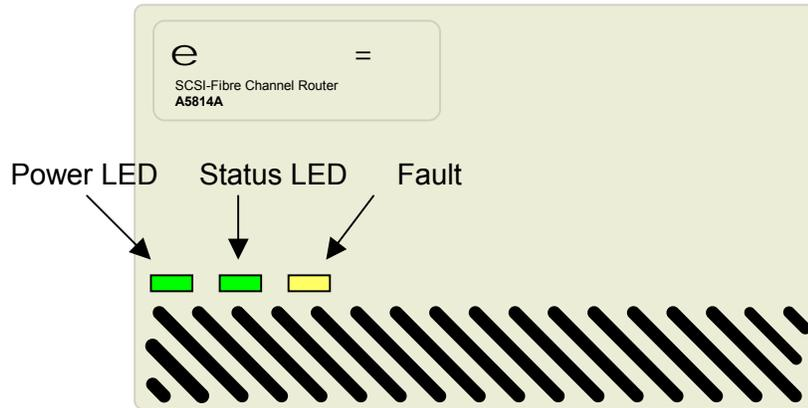
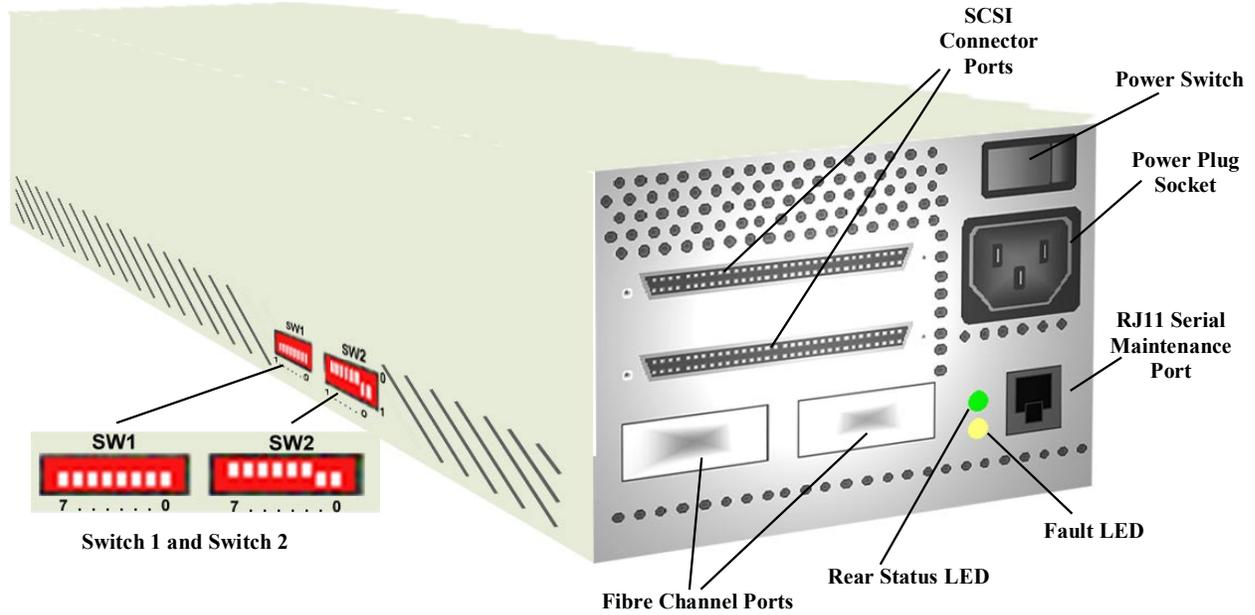

Figure 2-3. LED Location for Front Panel
Figure 2-4. Rear of SCSI-FC Router
4. When the Fault LED (yellow) is solid on and the Status LED (green) is blinking, it indicates that the Node Mapping Table has been cleared. (To locate the front and rear Fault LEDs, see Figure 2-3 and Figure 2-4, respectively).
2. On SW1 of the host router, set all DIP switches to the down position.  (To locate SW1, see Figure 2-4.)